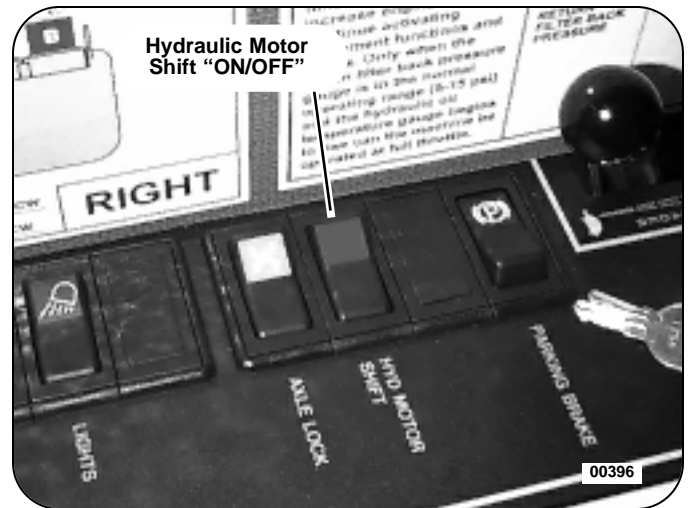

Figure 36: Hydraulic Motor Shift Control
8. Set the hydraulic motor shift control to the "OFF" position. See Figure 36.